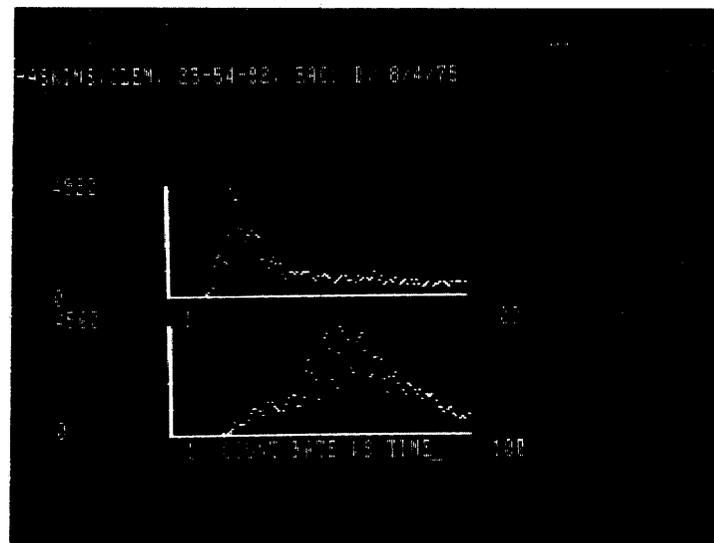

FIGURE 14. Dynamic curves of the left and right ventricles
- 3) plot the curves and save them in a save area ( $SD_n$ ). (Figure 14)